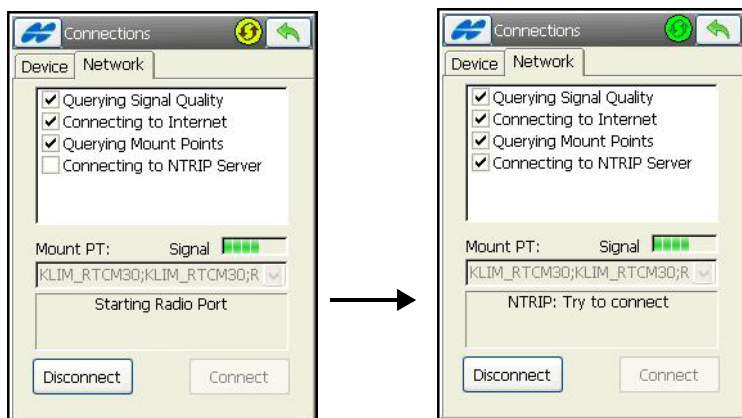

Figure 4-45. Starting Radio Port
- After making PPP connection, querying Mount Points is performed, and the Radio port starts to connect with the NTRIP server (Figure 4-45).